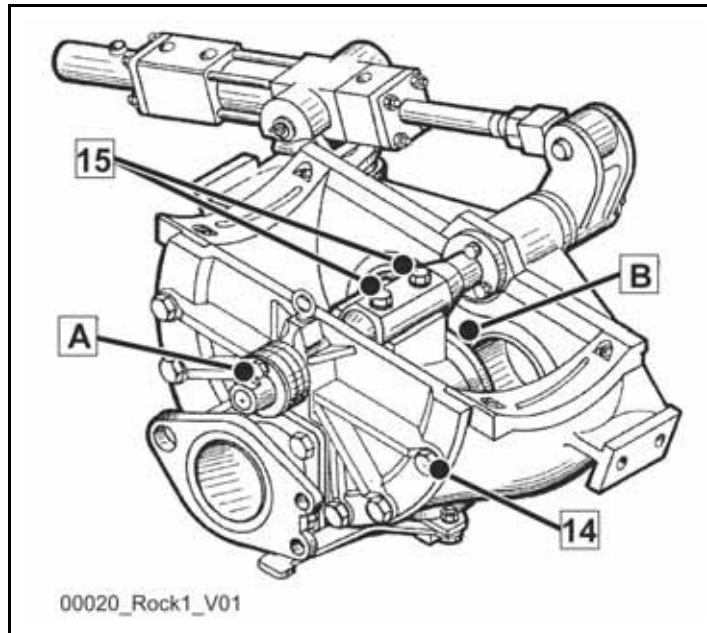

Fig. 308 Example
Regularly make sure that the cover screws (14) and clamping screws on the swivel head (15) are tight, in accordance with the maintenance schedule (**Fig. 308**).
Caption (Fig. 308)
The cutting ring and wearing insert on the housing lining are worn unevenly due to external influences (e.g. varying types of concrete) and different stresses in sub-areas (area "B", (Fig. 308)).